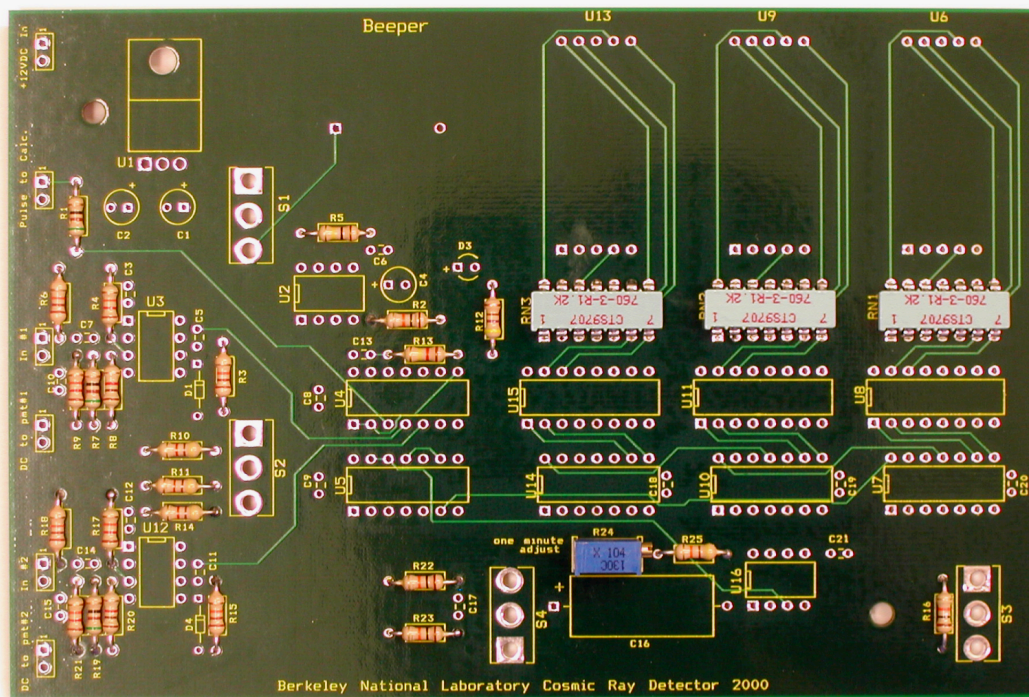

Figure 25: Circuit board with all resistors in place.
6. **Repeat the above steps for other components.** See Figure 25 for resistors.